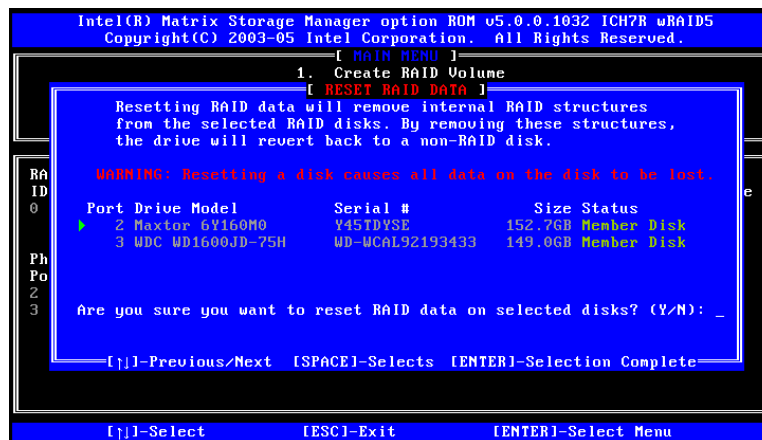

Figure E-14: Reset Disk Verification
Step 3: Reset Disk Verification. After reading the warning, press **Y** to reset the selected disks as non-RAID, or **N** to return to the **Reset RAID Data** menu. See **Figure E-14**.